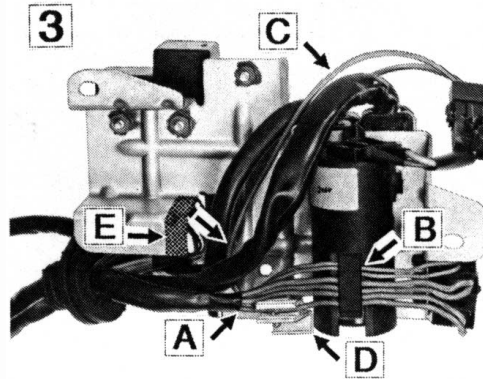

Figure 3
4. Cut wiring protection sleeves for wiring harness leading to fuses approximately 10cm and remove (Figure 3, arrow A).
8. Route voltage supply wire (Figure 3, arrow C) and connect with the supplied quick connector to one of the four red 2.5mm diameter wires (arrow D). The distance between the suppression filter and the quick connector must be sufficient to ease installation of the carrier plate.